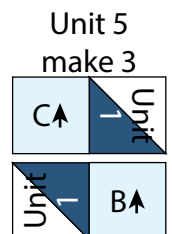

Fig. 10
7. Sew (1) $3\frac{1}{2}$ " Fabric C square to the left side of (1) Unit 1 square to make the top row. Sew (1) Unit 1 square to the left side of (1) $3\frac{1}{2}$ " Fabric B square to make the bottom row. Sew together the (2) rows lengthwise to make (1) $6\frac{1}{2}$ " Unit 5 square (Fig. 10). Repeat to make (3) Unit 5 squares total.